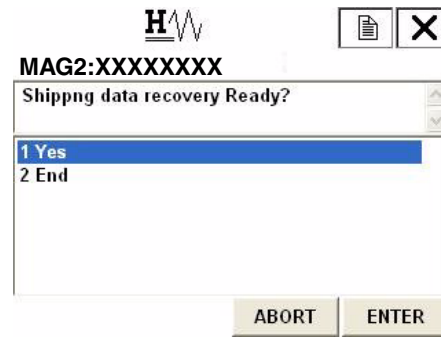

Figure 151.
2. When executing shipping data recovery, select **Yes** and press F4 (ENTER). Shipping data recovery executes, and the display returns to Figure 151. Press F3(ABORT) to return to the previous menu.